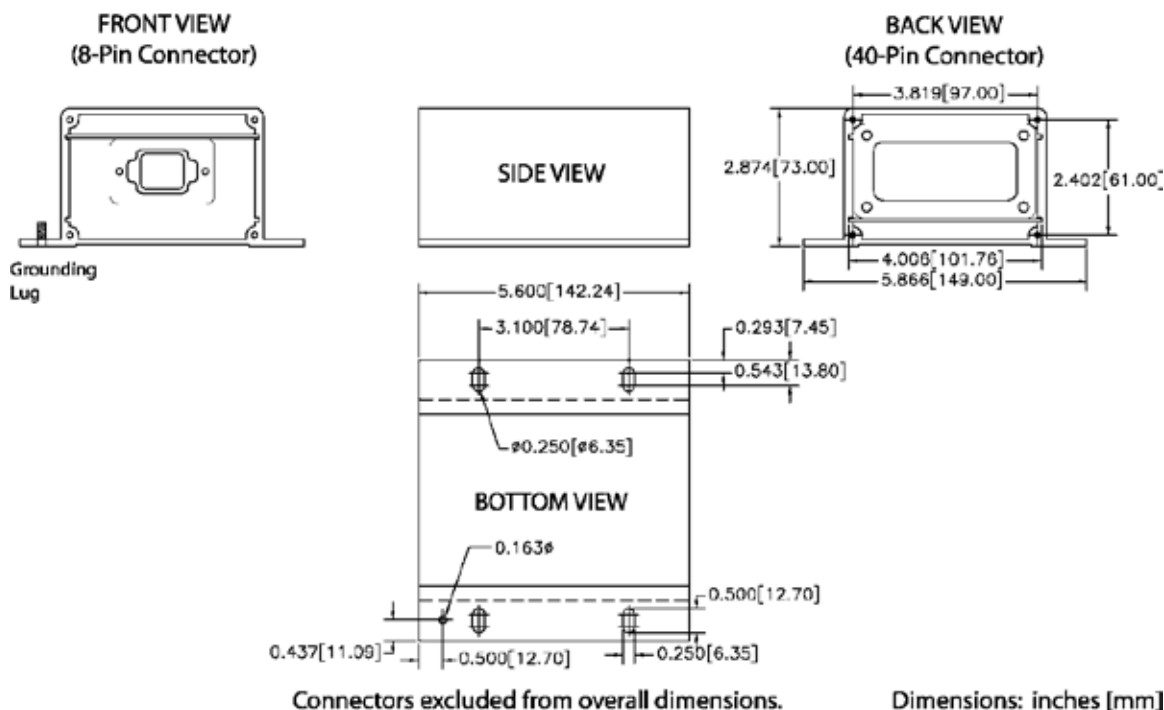

Figure 31.9 – Thermocouple, RTD, and Discrete I/O Module Physical Layout
- Compact size (see mechanical drawing, Figure 31.9)